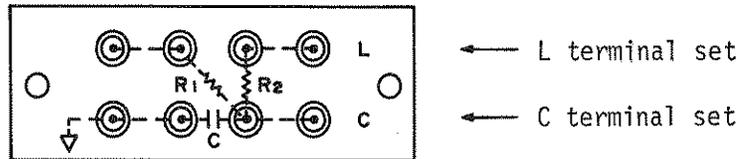

Figure 4-6. HP 16074A Quasi-inductor.
3. Connect 100µH quasi-inductor "C" terminals direct to 4275A UNKNOWN terminals. See Figure 4-6.